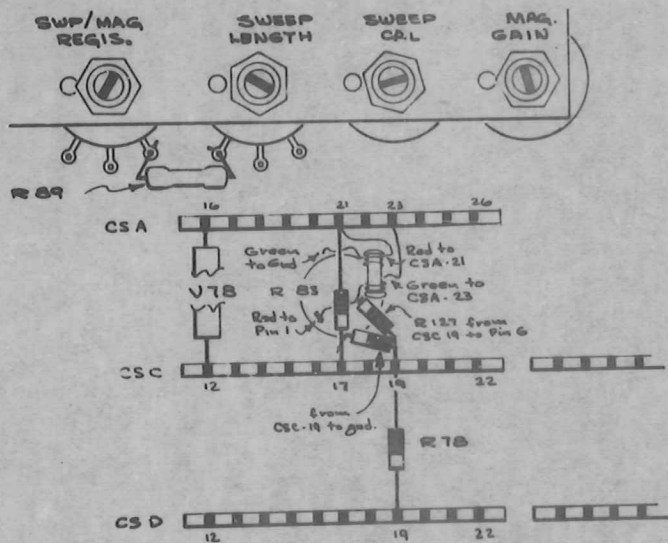

Fig. 6
33. Install T129, a 6T bifilar wound transformer as follows (see Fig. 6):
- () 34. Solder C129 (22pf capacitor, from kit) between pin 5 of V78 and CSA-21 (see Fig. 6).
- () 35. Replace the 47k, 1/2w resistor (R78), between CSC-19 and CSD-19, with the 10meg, 1/2w resistor from the kit (see Fig. 6).
- () 36. Solder the 10k, 1/2w resistor (from kit) between pin 6 of V78 and CSC-19 (see Fig. 6).
- () 37. Solder R128 (36k 1/2w resistor, from kit) between CSC-19 and the ground lug of V78 tube socket (see Fig. 6).
- () 39. Solder the 1.8meg, 1/2w resistor (from kit) between CSA-21 and CSC-17 (see Fig. 6).